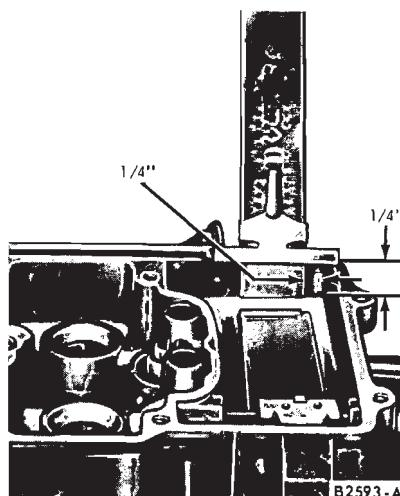

FIG. 8—Fuel Level Float Adjustment (Wet)
4. While the engine is idling, use a standard depth scale to measure the vertical distance from the top machined surface of the carburetor main body to the level of the fuel in the fuel bowl (Fig. 8). The measurement